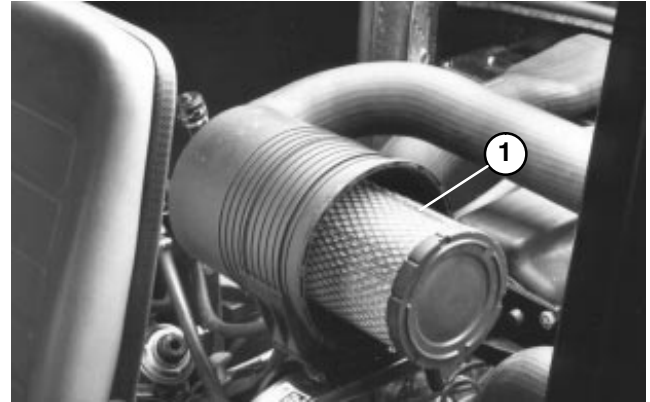

Figure 38
2. Gently slide primary filter (Fig. 38) out of air cleaner body to reduce the amount of dust dislodged. Avoid knocking filter against air cleaner body. **Do not remove safety filter.**